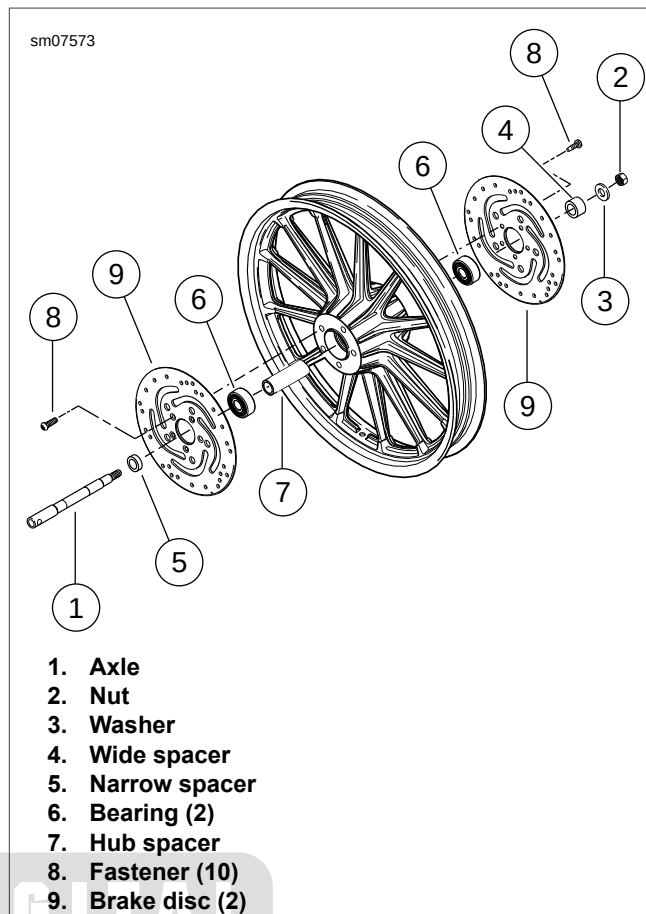

Figure 2-14. Dual Disc Wheel: XL 883R
- See Figure 2-14. Install hub spacer (7) and **new** wheel bearings (6). See 2.5 WHEELS, Sealed Wheel Bearings.